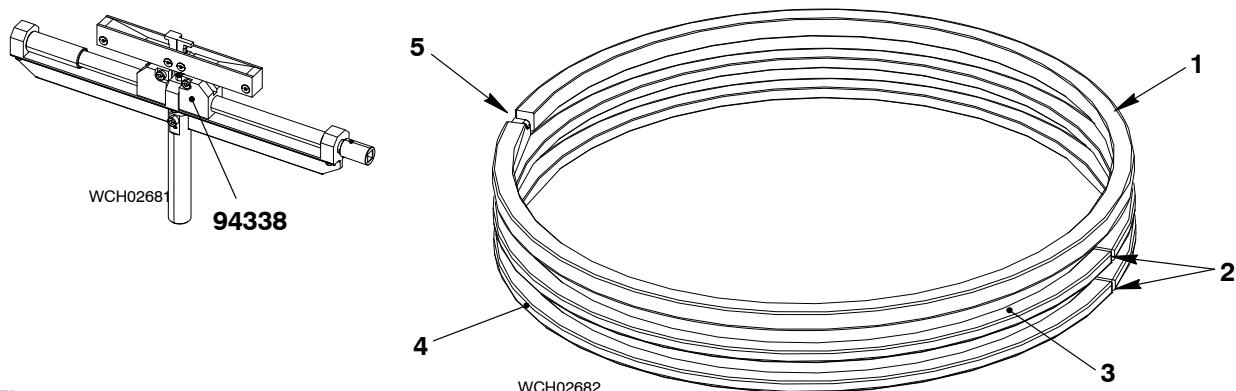

Fig. 8
- 2) Use the tool (94338, Fig. 8) to install the bottom piston ring (4) to the piston head.